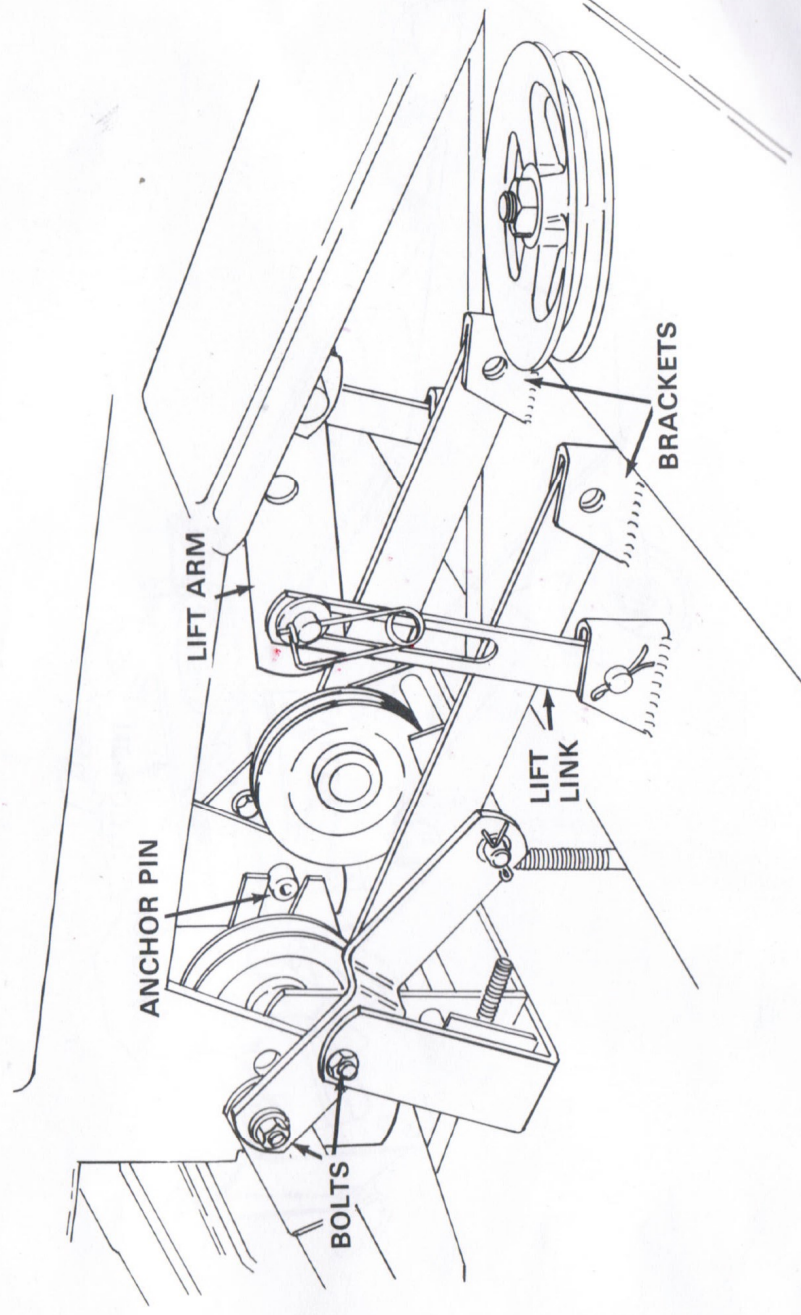

FIGURE 12
### SHARP BLADES. (See Figure 12.)
3. Install the front mounting bracket by lifting the front of the mounting bracket high while guiding the nuts that secure the anchor pins between the two bolts on the bracket. See Figure 12.